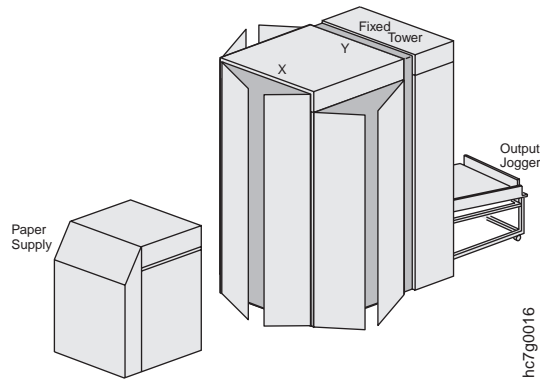

Figure 264. Right Side View of the InfoPrint Color 100
4. Move the paper supply away from the access doors located between the paper supply and the print tower, as shown in Figure 264 on page 293.